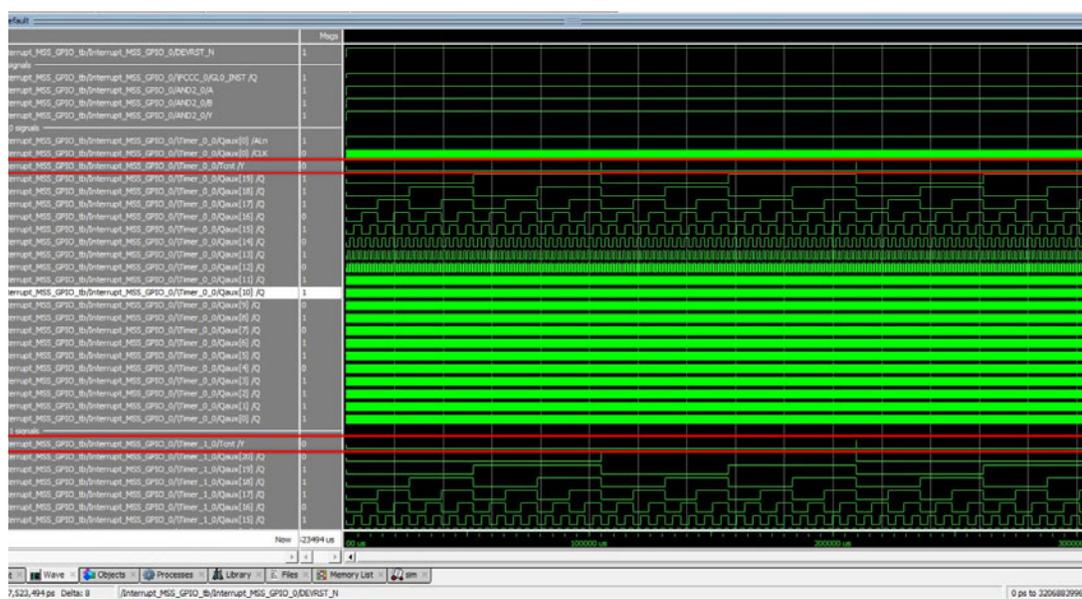

Figure 5-12 • Post-Layout Simulation Window after 300 ms of simulation time
- In ModelSim, let the simulation run for 100 - 300 ms of run time. This may take a few hours to complete. You may want to stop the simulation (**Simulate > Break**) after you have verified that the lower bits of the two counters are counting/toggling correctly in the waveform window. Use the zoom buttons to change the scale and view details in the waveforms (Figure 5-12).
Figure 5-12 shows the waveform window after 300 ms of simulation runtime.